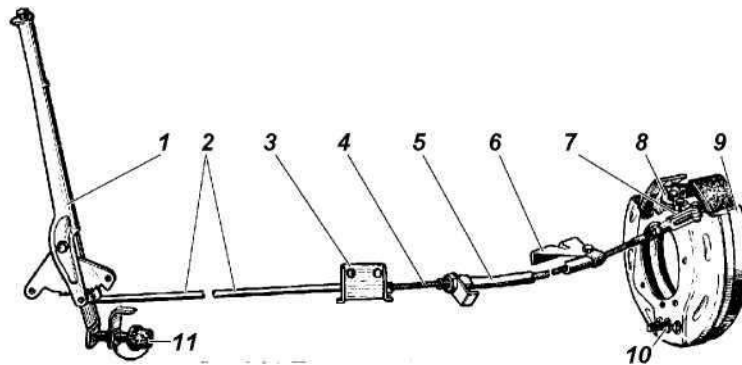

Fig. 9.34 Parking brake drive:
2. Set the parking brake lever 1 (Fig. 9.34) in the front most position.